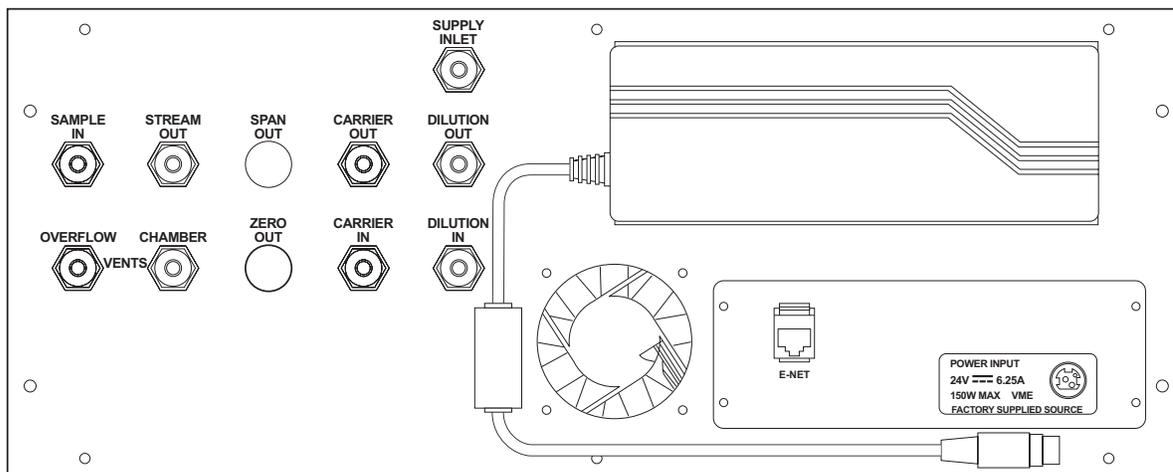

Figure 3 Dynacalibrator 235 Rear Panel
All Model 235 Dynacalibrators are equipped with a supply inlet fitting. **(Figure 3)** Since there is no internal pump, the supply inlet must be connected to an external pressurized source of carrier and dilution gas such as an external pump, a cylinder of compressed gas, etc. The most commonly used gas is dry air; however, dry nitrogen may also be used.
2. Remove caps from the SUPPLY INLET, SPAN OUT, and OVERFLOW VENT ports on the rear panel. (**Figure 3**)
3. Connect the clean, dry, regulated supply gas source (25 psig min, 50 psig max) to the carrier inlet on the rear panel. (**Figure 3**) The supply gas regulator must be able to source the maximum dilution flow, which may be as high as 20 SLPM.